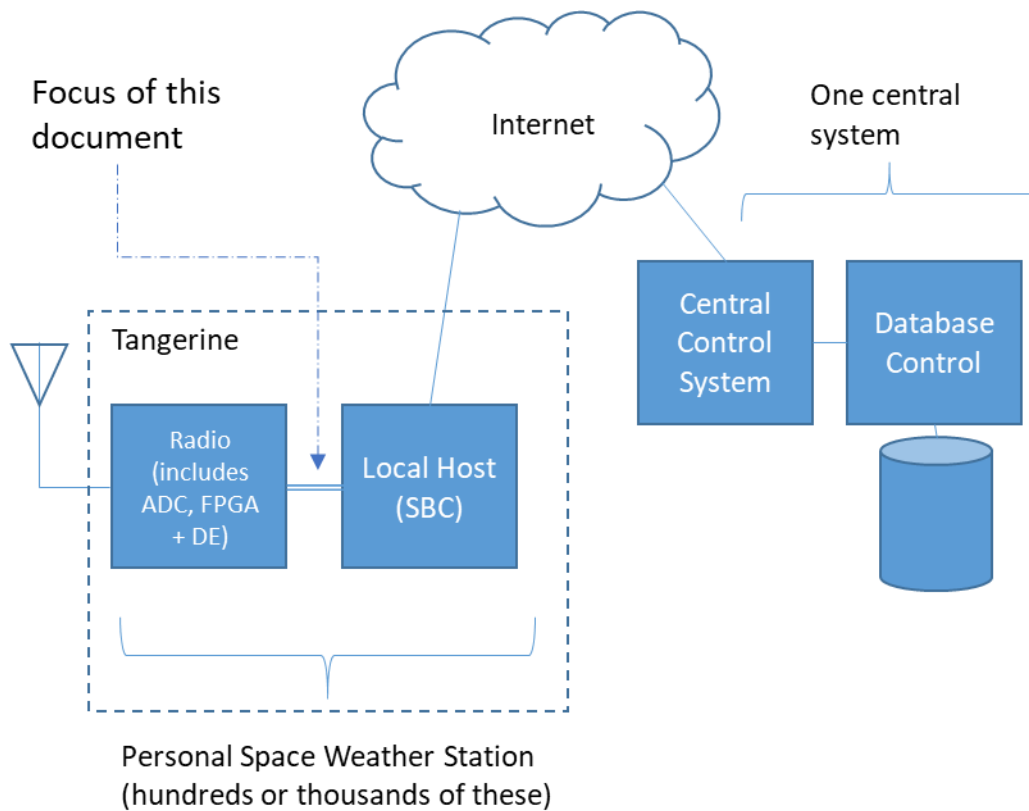

Figure 1. Conceptual Overview.
Figure 1 shows an overview of the system architecture. This document is concerned with the communication (solely within the Tangerine) between the Local Host (LH) and the DE.
The overall process flow is designed to allow multiple Data Engines and multiple Local Hosts to be on the same Local Area Network, each (potentially) supporting multiple channels (each potentially with multiple subchannels), and maintain connectivity as needed without confusion. For this, we have the concept of channel pairs. For purposes of explanation, we designate the involved ports with letter designations A through F. Refer to Figure 1. (The narratives in the Use Cases explain the process in more detail).
First, we use a discovery process to connect the DE and LH. See Figure 1, below.